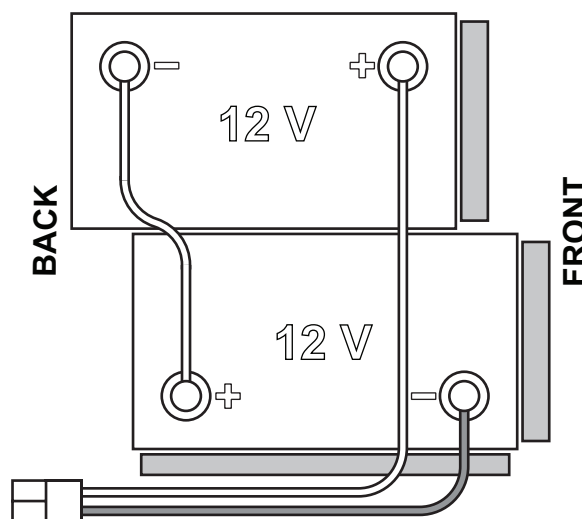

Figure 1
The machine requires 2 12 V batteries, connected according to the diagram shown in Figure 1.
1. Remove the user key (51).
2. Disconnect the battery connector (9).
3. Lift the cover (34) and check that the recovery tank (33) is empty; if not, empty it using the drain hose (12).
4. Close the cover (19).
5. Grasp the handle (16) and carefully lift the tank (33).
7. Route and install the battery cable as shown in Figure 1, then carefully tighten the nut on each battery terminal.
8. Place the protection cap on each terminal, then connect the battery connector (9).
9. Grasp the handle (16) and carefully lower the tank (33).